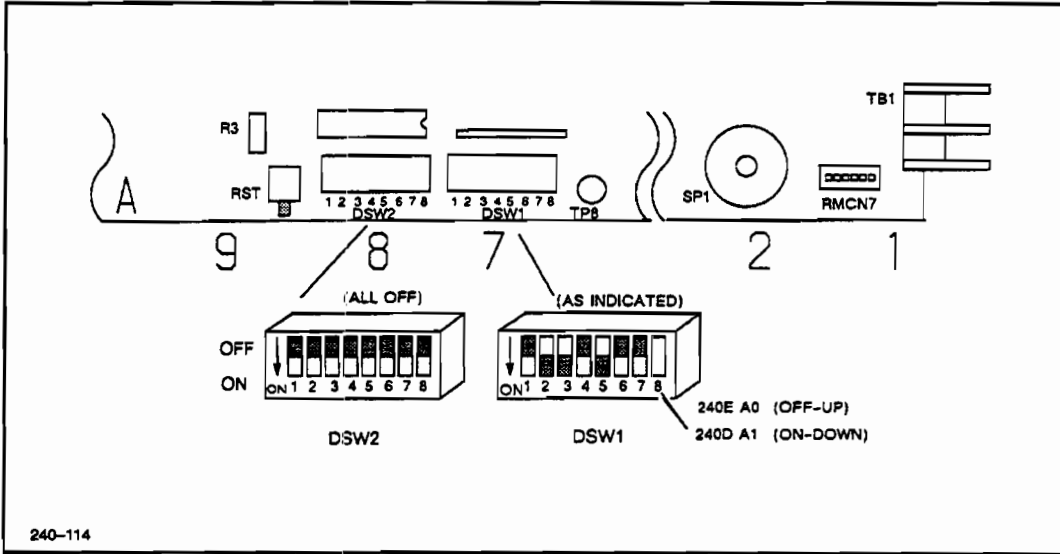

Figure 6-38. RMC PCA Switches (Models 240D/E Only)
7. Before installing the PCA, ensure that the two switch units on the PCA are properly set. See Figure 6-38 for Models 240D/E only).